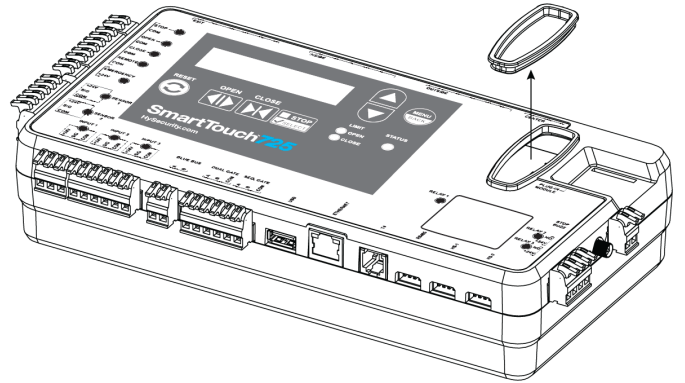

Figure 62. Remove OXI Receiver Cover
2. Remove the rubber plug or OXI receiver from receiver slot (Figure 62).